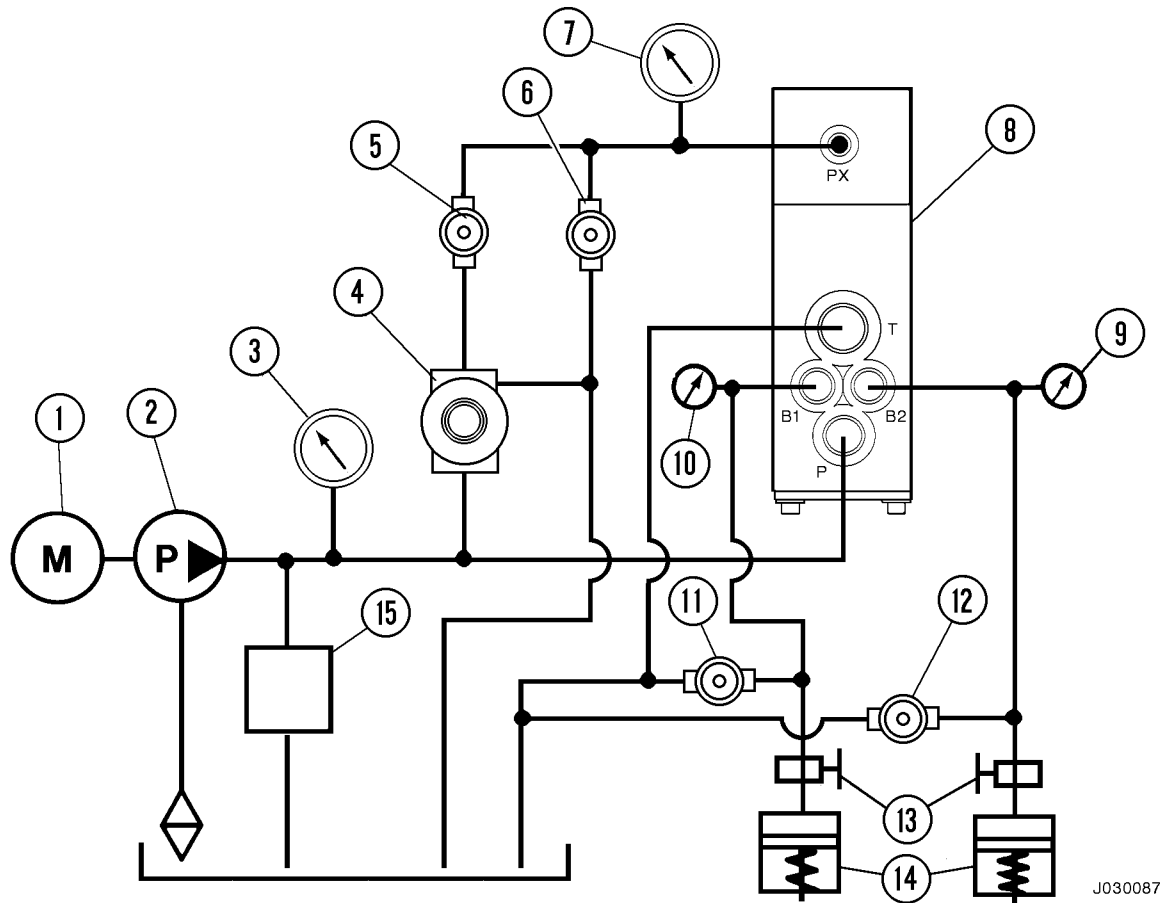

FIGURE 3-11. DUAL RELAY VALVE BENCH TEST SETUP
- Hydraulic test stand (Refer to Figure 3-11)
1. Position the valve on the test stand as shown in Figure 3-11.
5. Attach the regulated output ports "B1" and "B2" to the test lines. Pressure monitoring devices in these two lines must be capable of 20 680 kPa (3,000 psi). Connect all ports according to the diagram shown in Figure 3-11. All ports must be used and connected.